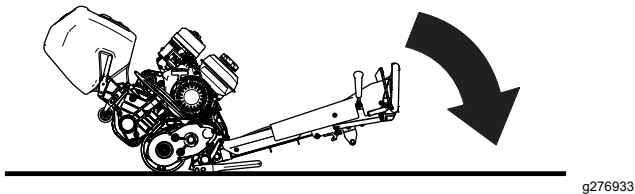

Figure 5
2. Access the cutting unit by lowering the traction-unit handle to the ground (Figure 5).